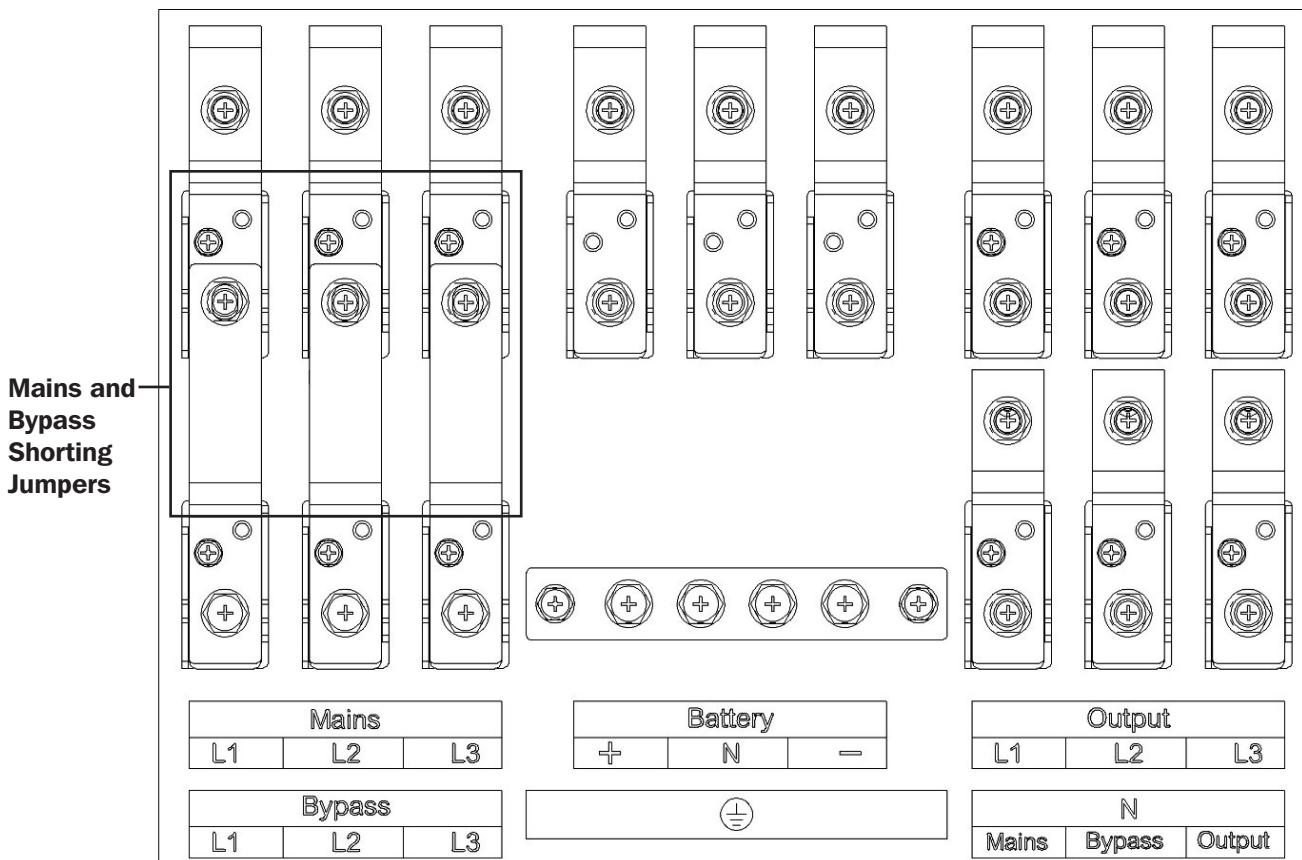

Figure 3-12: Single Input Connection, Models S3M80K and S3M100K
**Note:** The UPS unit is defaulted to single input mode, as shown in Figure 3-12. Remove the shorting jumpers to use in dual input mode.